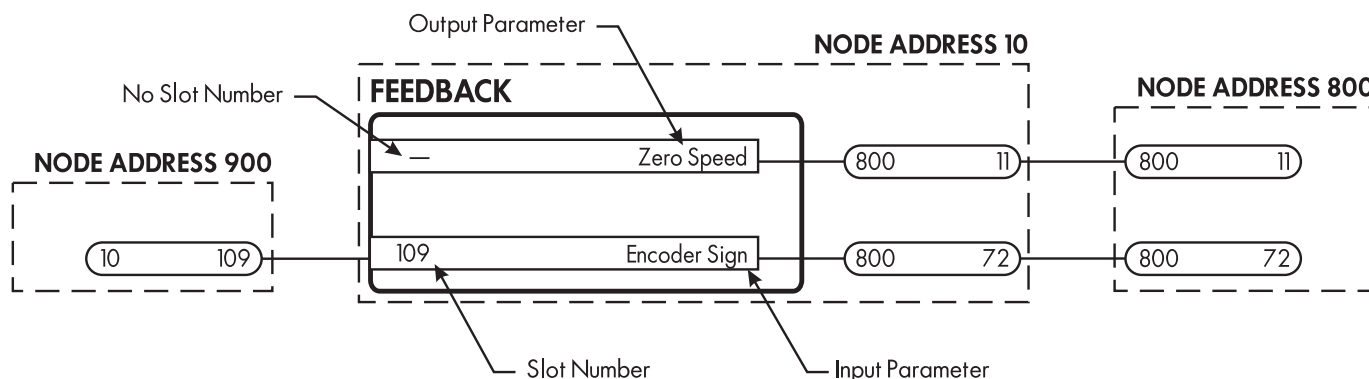

Figure 4.1 - Example of ConfigEd Software Block Inputs and Outputs
- DRIVE OUTPUTS: Some drive parameters are read only and have no associated input slot number. These are considered to be *LINK* drive software block *outputs* (or output slots). The distinction between drive slot inputs and outputs is shown in Figure 4.1.